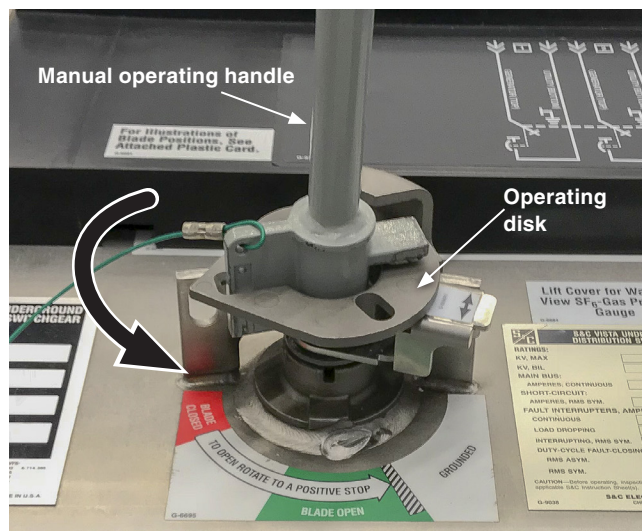

Figure 12. Opening the fault interrupter.
- STEP 4.** Insert the manual operating handle into the notch of the operating mechanism. See Figure 12.